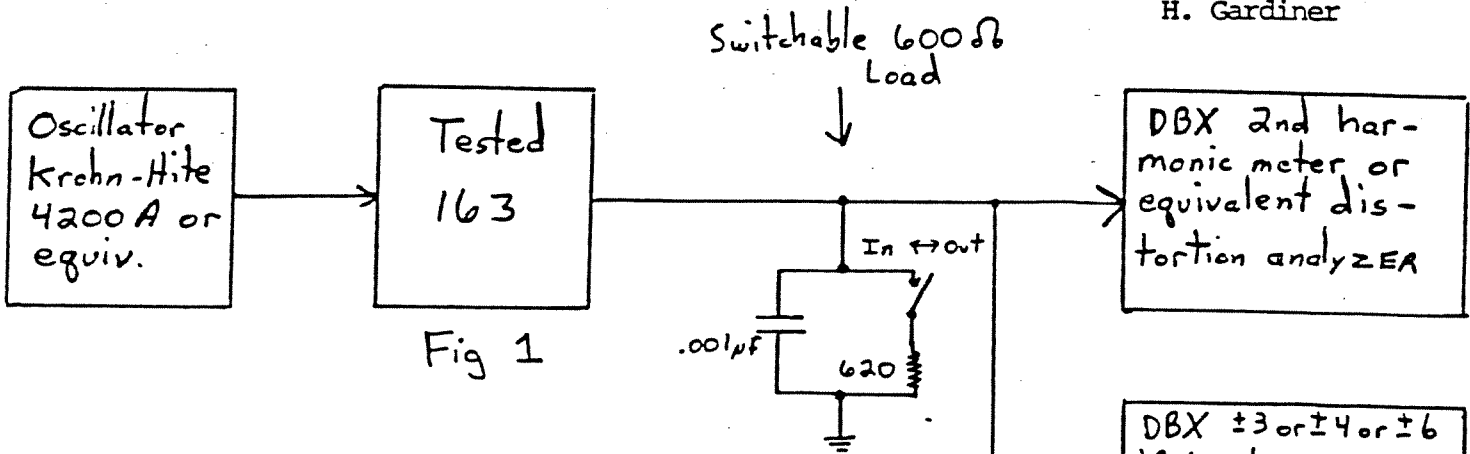

Fig 1
- a) Connect equipment as shown in Figure 1.